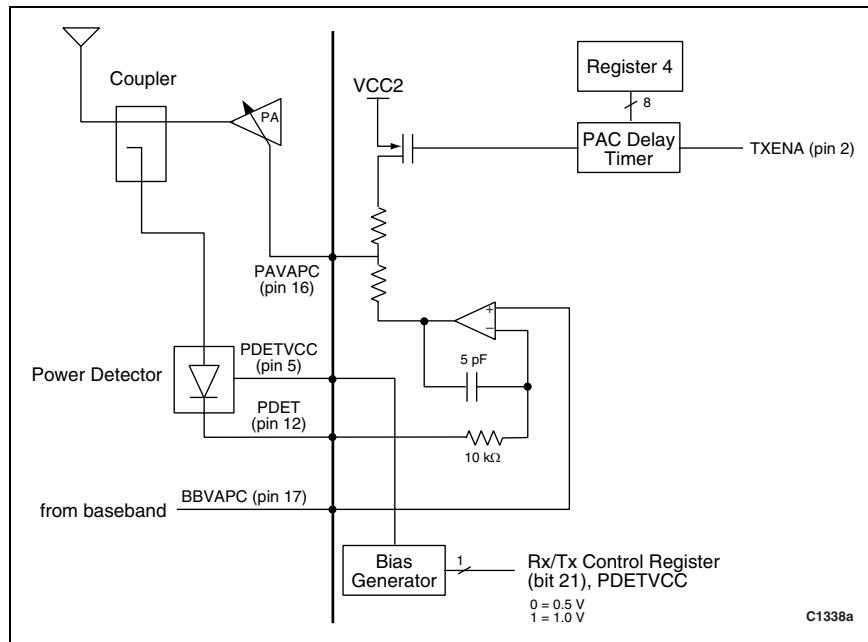

Figure 8. PA Controller Block Diagram
The device contains an error amplifier/integrator to provide transmit burst control for an external power amplifier (PA). As shown in Figure 8, when the device is connected to a PA, an RF detector, and a coupler, a loop is formed that controls the transmit power in a multi-band wireless application. The error amplifier amplifies and integrates the voltage difference between the RF detector output (PDET) and the power control input (BBVAPC). The output of the integrator is fed to an internal gain shaper that drives the gain control input (PAVAPC) of the external RF PA. The device provides a bandgap voltage (PDETVC) which can be used as the supply voltage for the external peak detector and can source up to 200 μ A.